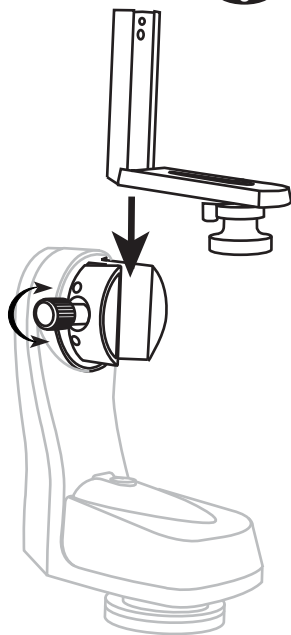

Fig.7
2. Locate the 1/4x20 Mounting Platform. Slide it down the slot on the Fork Arm as indicated in Fig.7. Secure by tightening the thumb screws.